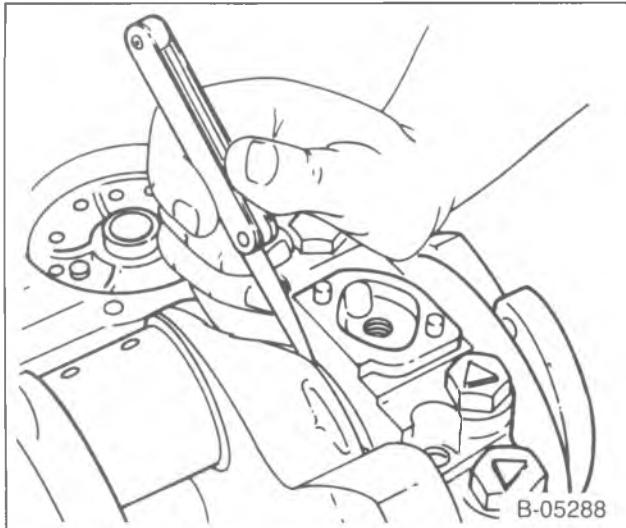

Figure 30—Measuring Crankshaft End Play
Measure (Figure 30)
2. With the crankshaft forced forward, measure at the front end of the number three main bearing with a feeler gage (figure 30). The proper clearance is 0.06 to 0.21 mm.